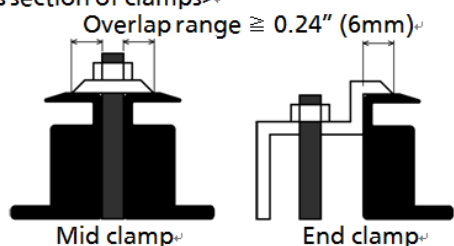

Figure 10. Module Installation
- The modules should be mounted basically at the four (4) quarter points by the means shown in Figure 1, and based on installation methods shown in Figure 10
- Figure 10 shows using a bolt and nut for mounting.
- The module was tested using IronRidge clamps with the specifications see Figure 10 and below;